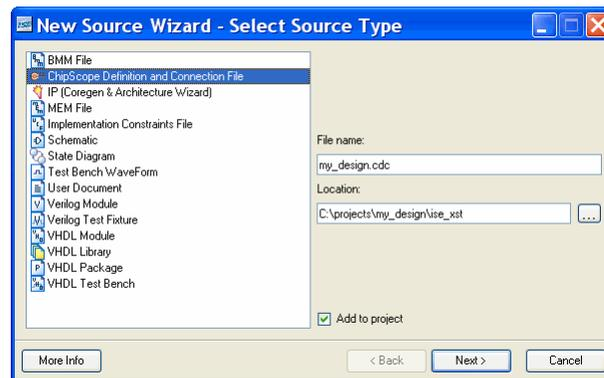

Figure 3-1: Creating a New .cdc Source File
- a. To create a new .cdc file, select **Project** → **New Source**, then select **ChipScope Definition and Connection File** and give the file a name (Figure 3-1, page 70). Click through the remaining dialog boxes using the default settings, as needed.